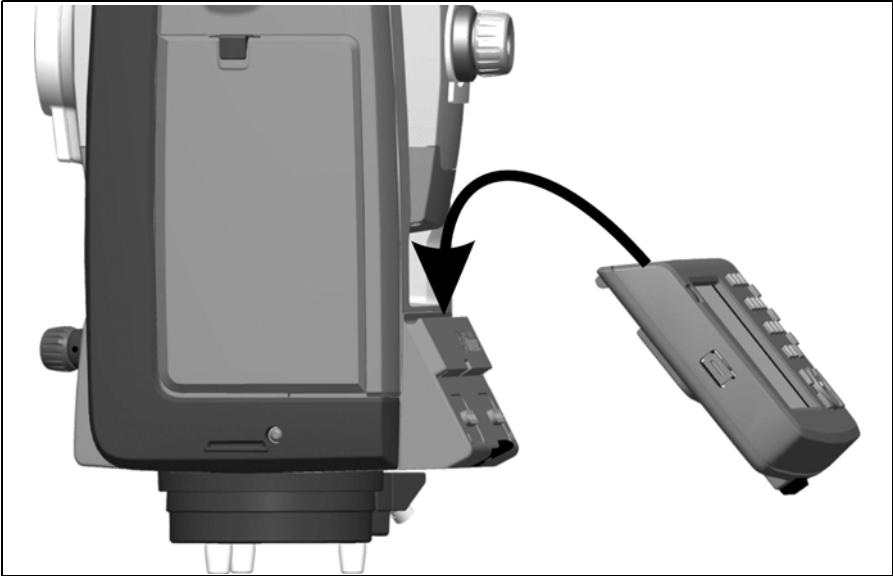

Figure 4.35 Attaching the Trimble CU to the instrument
1. Hook the top of the Trimble CU over the top edge of the panel attachment, Figure 4.35